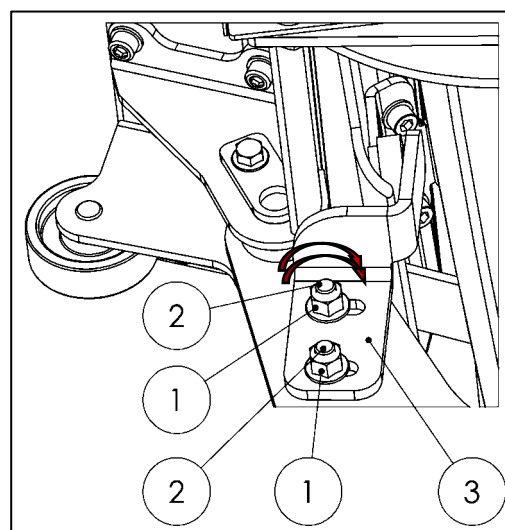

Fig. 81
- Tighten the nuts (1) and bolts (2) on the stopper (3) to a torque of 80 Nm (see Fig. 81).